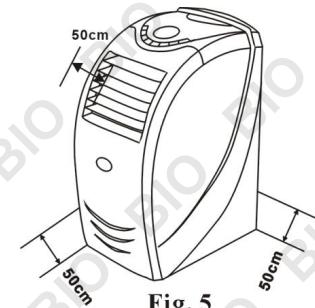

Fig. 5
2. Leave at least 50cm space around the unit (when the hose is not connected) (Fig. 5).